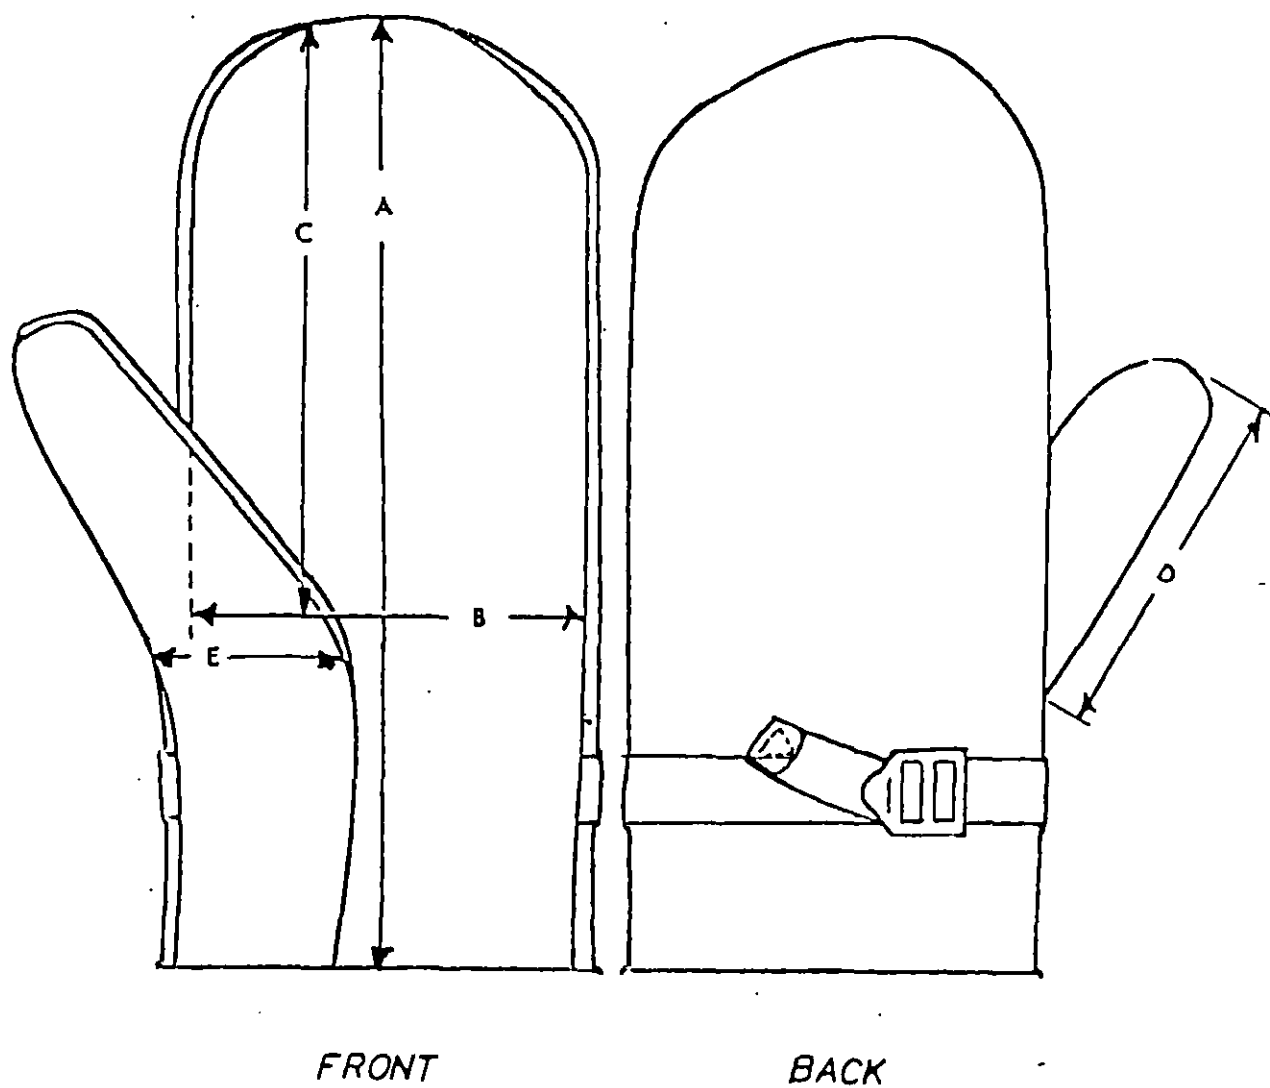

FIGURE 1 - MITTEN SHELLS, MEN'S
2.1 Design and construction. The mitten shells shall be leather and shall be an unlined "Chopper" type with a continuous thumb and a buckle strap wrist closure (see Figure 1). All seams shall be on the inside of the mitten shell.
2.3 Measurements. The finished measurements of the mitten shells shall be as shown below. Measurements shall be made as indicated in Figure 1. All measurements and tolerances are expressed in inches.
Refer to Figure 1 for location of A, B, C, D, and E measurements.